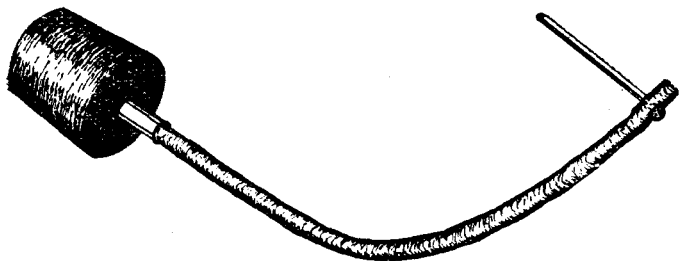

FIG. 20
- ii. Next cut off the required amount of fuze for the set. 13 ins. (1 in. allowed for lighting) will give about 30 seconds in which to get to cover. See that the end to be inserted in the detonator is cut clean and square. About 1 in. from the other end bore a hole through the fuze with the point of a sharp knife. Into this hole draw a match until the head of the match is nearly flush with the fuze (*see Fig. 20*).